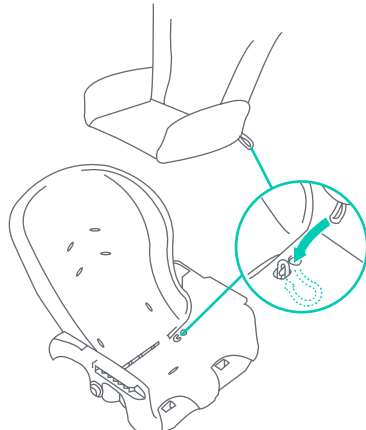

Fig. 9b
- Attach the bottom of Seat Pad to the Seat Base with the two Elastic loops located at the rear of the bottom of the Seat Pad. These fit over the Attachment Tabs located on the Seat Base near where the Seat Back and Seat Base Join (Fig. 9b).